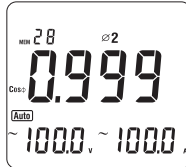

Figure 21
- Then press **SELECT** again to choose the second phase  $\phi 2$ , see figure 21.